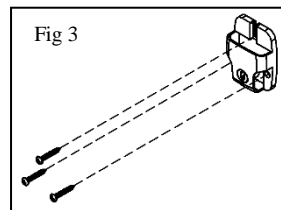

Fig 3
4. Hold the cabinet latch on the mark and using a Phillips screwdriver, drive three screws through the holes in the cabinet latch and into the outside of the spa (fig 3).